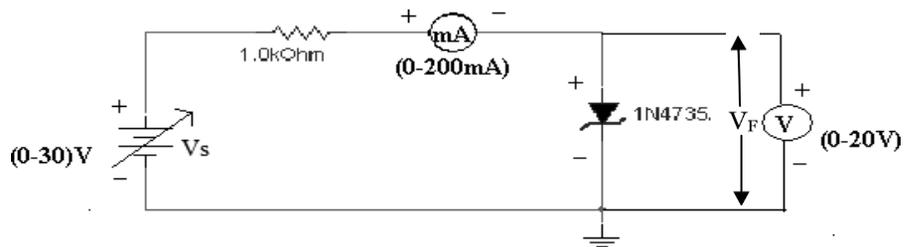

Figure 2: Circuit diagram of diode in forward bias
1. Connect the circuit as shown in figure 2.